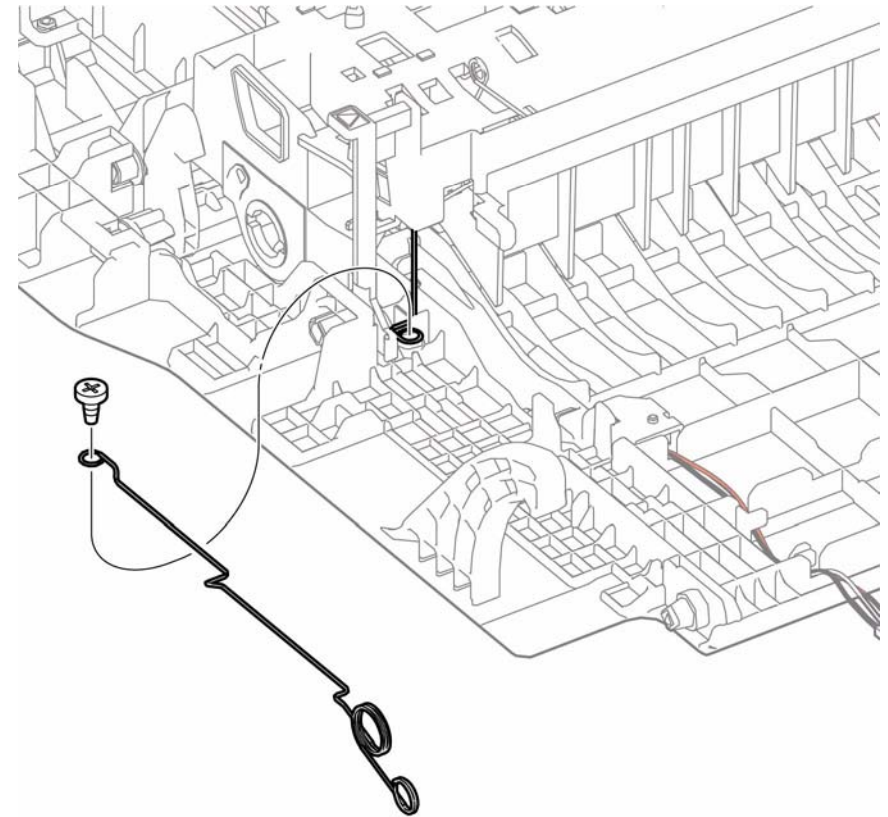

Figure 2 Replace Ground Springs
2. Refer to Figure 2 to locate and secure the 2 grounding springs to the Rear Cover. Fasten the spring connecting to the chassis on top of the spring in the Rear Cover.